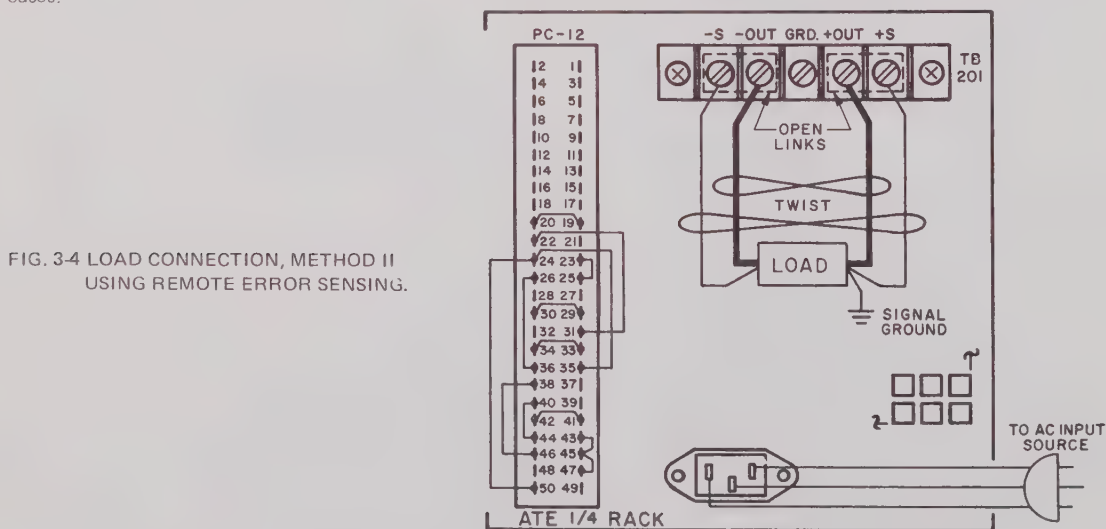

FIG. 3-4 LOAD CONNECTION, METHOD II USING REMOTE ERROR SENSING.
3-22 To avoid excessive output effects at remote loads, error sensing must be used. A twisted, shielded pair of wire from the sensing terminals directly to the load will compensate for load wire voltage drops up to 0.5 volt per wire (refer to FIG. 3-4). Observe polarities: The *negative sensing wire* must go to the *negative load wire*, and the *positive sensing wire* goes to the *positive load wire*.
- 3-25 This method is suitable if step changes in the load are expected if, for example, the load is rapidly changing in value, or if the power supply is programmed with step functions (square wave, pulse, etc.) and maximum dynamic performance is expected directly at the load terminals. In these cases, the output capacitor is disconnected at the power supply and brought with a heavy, twisted-wire pair directly to the remote load (refer to FIG. 3-4).